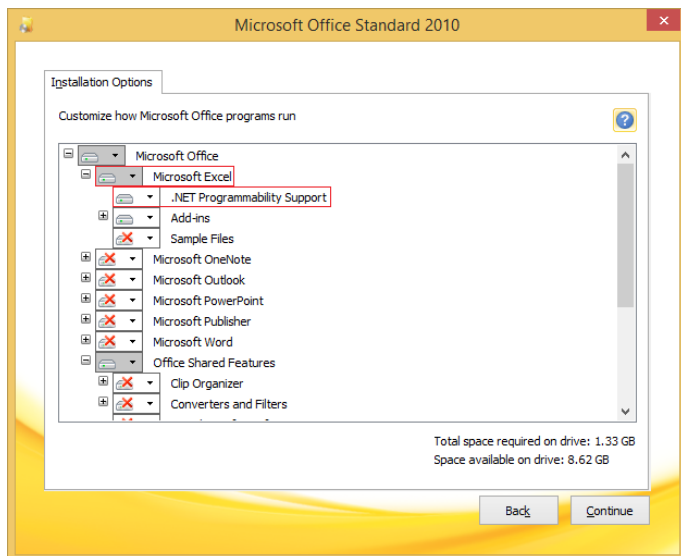

Figure 10: Excel .NET Programmability Support instructions in red.
- .NET Programmability support (See Figure 10)